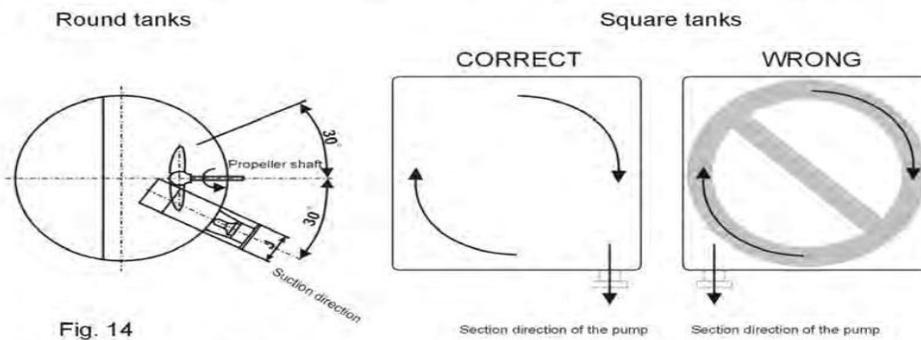

Fig. 14
- The suction direction of the pump should be the same as the flow direction in the tank.(Fig.14)